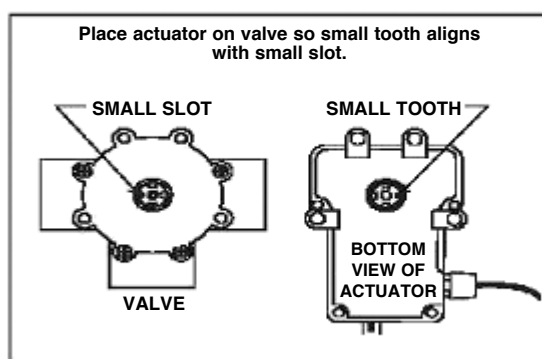

Figure 4. Actuator Mounting.
3. Turn Actuator over and note that one of the four teeth of the output drive is slightly smaller. Place Actuator over the valve shaft such that the small tooth engages with the small slot in the valve shaft. (See figure 4).